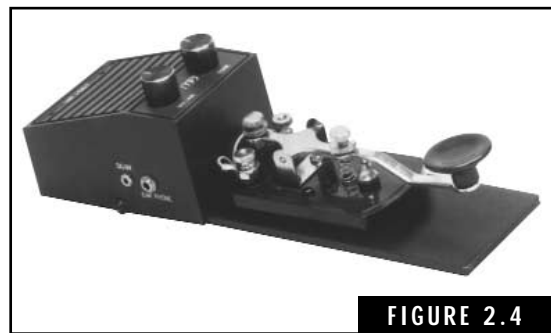
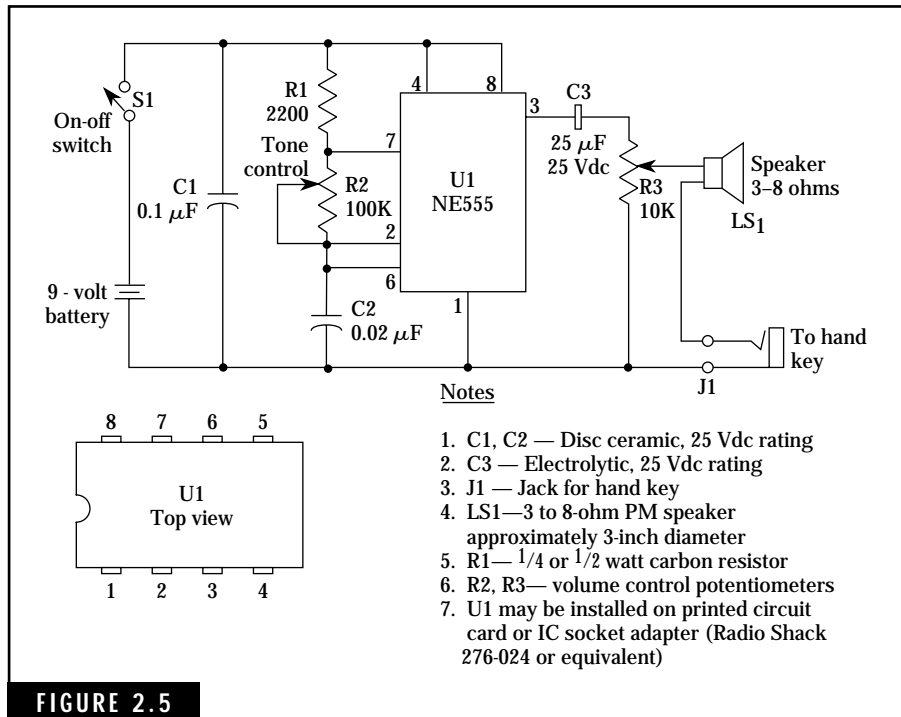

FIGURE 2.4
FIGURE 2.5 Schematic diagram for code practice oscillator circuit using the Signetics NE555 IC Timer.
A simple code oscillator consisting of a high-frequency buzzer or an electronic audio oscillator with a loudspeaker are available as kits or completed items. Building and assembling an audio oscillator is an excellent first project for your Technician career. Some amateur equipment suppliers offer combination audio oscillator–hand key units. Figure 2.4 shows the MFJ Enterprises, Inc., Model MFJ-557 Code Practice Oscillator, which can be used for individual as well as group code practice sessions. It is battery powered and has a small internal speaker. An alternate approach is to build a “home-brew” code-practice oscillator using the popular Signetics NE555 integrated-circuit (IC) timing chip. (Other integrated-circuit companies may offer a direct substitute for the Signetics NE555.) Figure 2.5 provides a schematic diagram for this code oscillator. Parts for this device, including a small cabinet or chassis, are available from local radio parts stores. A single 9-volt transistor battery will power this code oscillator for many hours of operation.